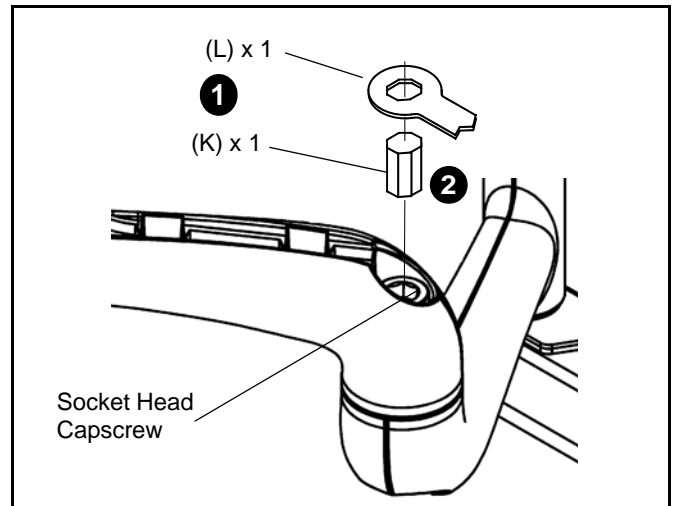

Figure 11
1. Locate the adjustment bar (K) and adjustment wrench (L).
2. Place adjustment bar (K) into socket head cap screw located at swing arm pivot point. (See Figure 11)